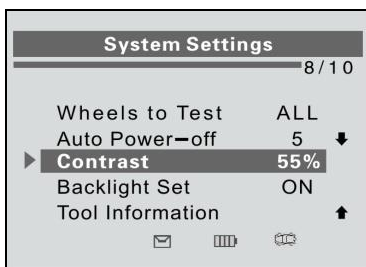

Figure 2.16
- 1) From **System Settings** screen, use the **UP/DOWN SCROLL** button to select **Contrast**, and press the **Y** button. (Figure 2.16)